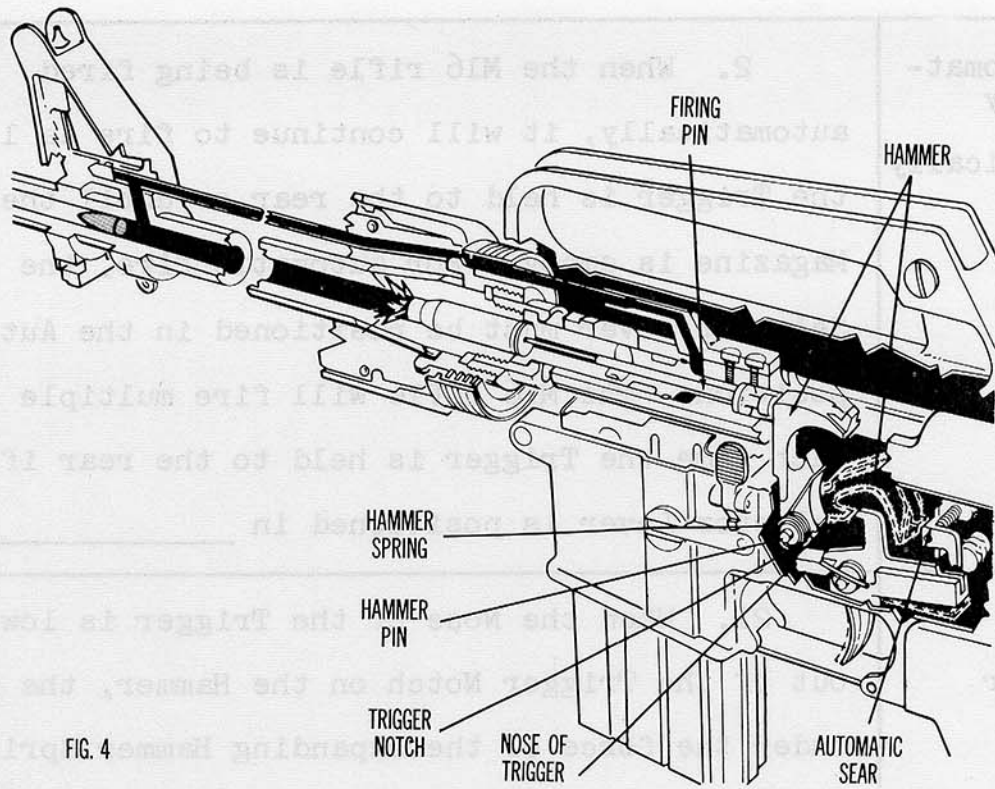

FIG. 4
21. When the Nose of the Trigger is lowered out of the Trigger Notch on the Hammer, the Hammer, under the force of the expanding Hammer Spring, pivots on the Hammer Pin and strikes the Firing Pin, thus forcing the Firing Pin (fig. 4), forward to strike and detonate the primer of the round and to fire it.